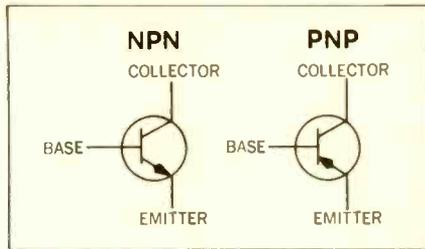

Fig. 5—The basic schematic for PNP and NPN transistors.
**Polarity**—This requirement can be readily determined from the schematic symbol as illustrated in Fig. 5 (note that for the NPN device the emitter arrow points *away* from the junction and for the PNP device the arrow points *toward* the junction). However, if a schematic is not available, the polarity can be easily determined in the following manner: With the circuit energized, connect the negative lead of a voltmeter to the emitter terminal of the transistor and the positive lead to the base (or collector). If the voltage reading is *positive*, then the device is nPn, while if the reading is *negative* the device is pNp. (Note that the P for positive or the N for negative indicates the middle designation—NPN or PNP.)